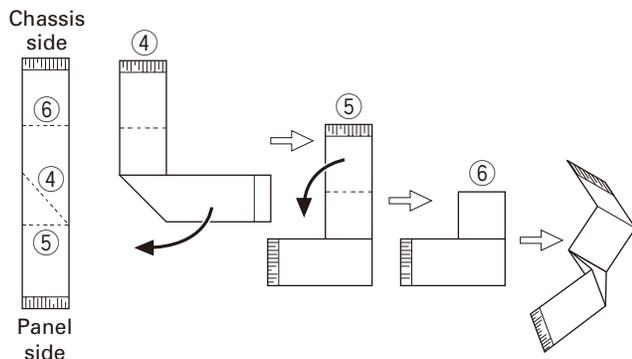

Fig. 3-2
2. Remove the flat cable from the connector (CN901) of the display unit of the panel. (③)
3. Fold the black line of the flat cable (in three parts) as shown in Figure 3-2. (④, ⑤, ⑥)